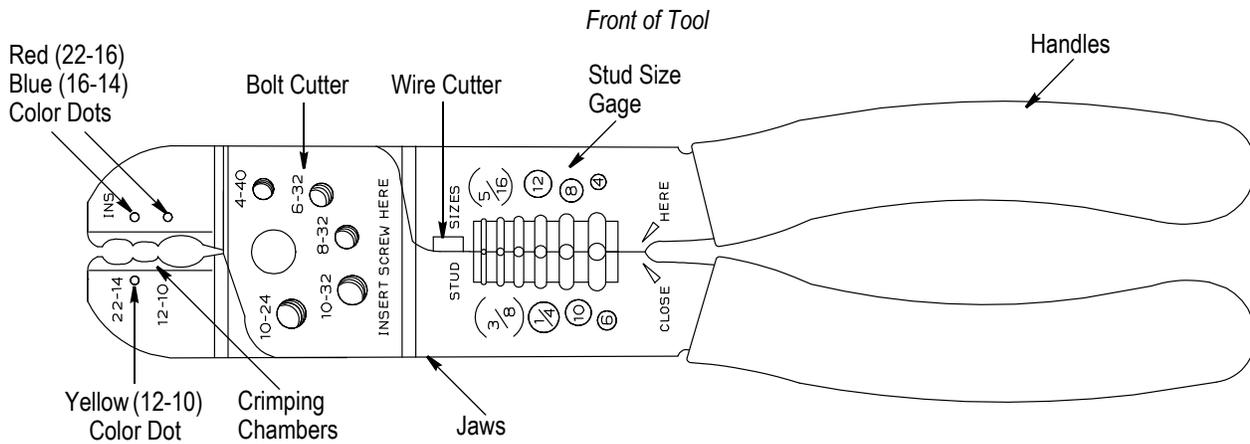

Figure 1
SUPER CHAMP Hand Tool 696126-1, shown in Figure 1, is used to cut and strip wire and crimp the insulated terminals and splices to wires listed in Figure 2. The hand tool is also capable of cutting bolts and gaging various stud sizes.
The hand tool consists of two jaws and handles. The jaws feature crimping chambers, a bolt cutter, wire cutter, stud size gage, and strip length gage. The crimping chambers are marked and color-coded to a specified wire size range. See Figure 1.
2. Thread the bolt into the appropriate-sized opening on the side of the tool marked, "INSERT SCREW HERE". See Figure 1.
- Modified Figures 1 and 2